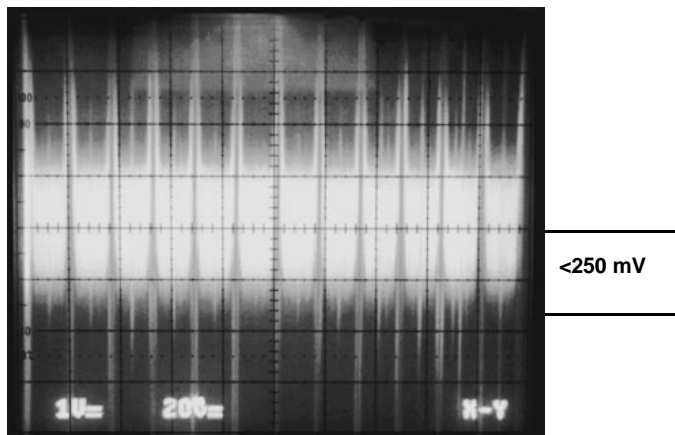

Figure 6-19. Oscilloscope Noise Level Display
- Step 53.** Verify that the noise level is 250 mV or less (Figure 6-19).